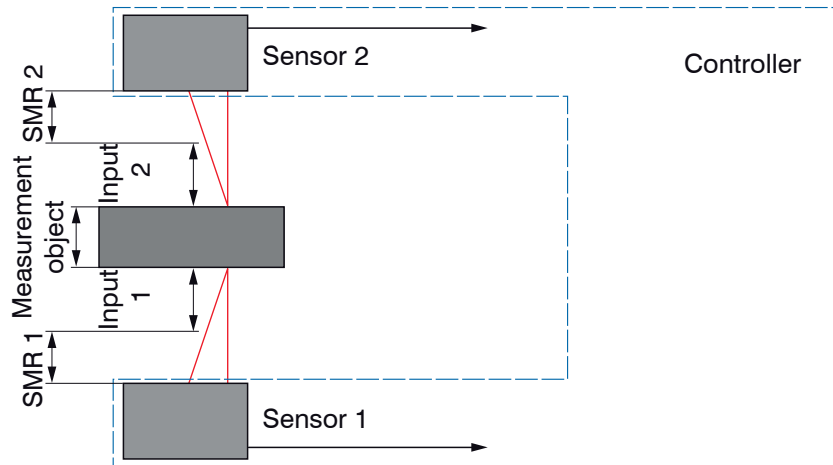
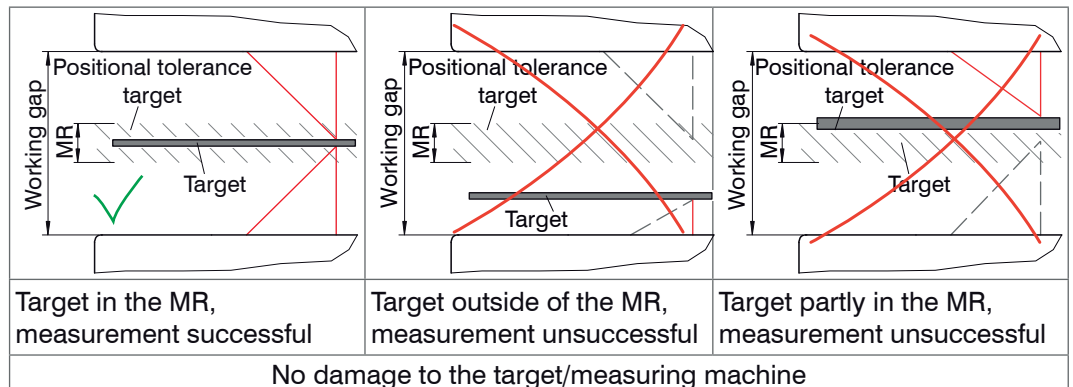

Fig. 5 Sensor arrangement for the thickness measurement
Fig. 6 Possible positions of the material to be measured and statements about the feasibility of thickness measurement
The thickness determination does not require any complex target support. The main advantage is that vibrations of the target do not result in inaccurate measurement. The positional tolerance of the target is determined from the working gap, the start of measuring range (SMR), see Fig. 5, and the measuring range (MR) of the laser sensors, see Fig. 6.